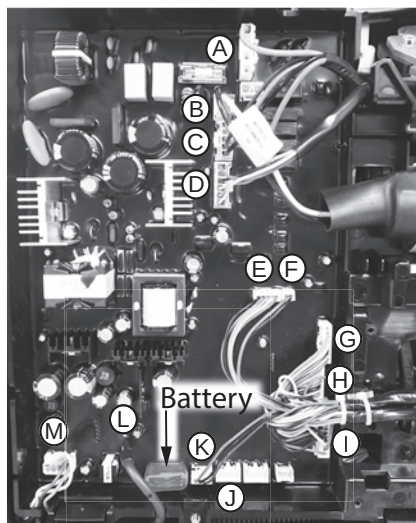

Figure 17 - Wiring harness connection points.
- 4 Locate and disconnect the wiring harness connection point J shown in Figure 17.
14 Using Figure 17 as reference disconnect the wiring harnesses A through M from the control board.
34 Reconnect the "keepers" on wiring harnesses B and I removed in **Steps 17 & 18**. Reference Figure 17 for placement of each wiring harness.
35 Reconnect the user interface module wiring harness removed in **Step 4**. Reference Figure 17 for connection point M.
39 If the new control board does not have a battery installed, remove the battery from the old control and place it in the new one. See Figure 17 for battery location.